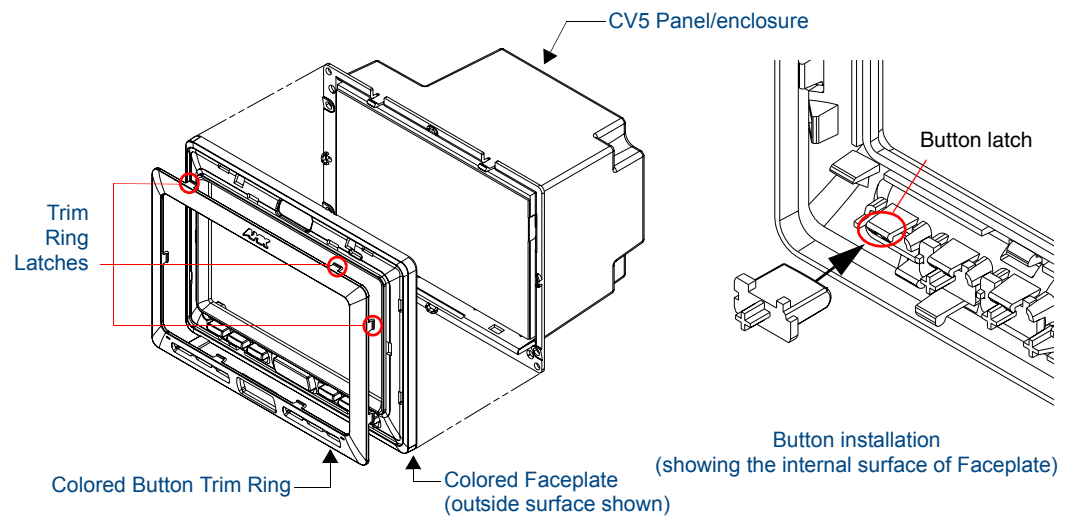

FIG. 14 Installing the Button Bezel Kit (NXA-BEZ-5B)
To assemble the Bezel Kit with Buttons (FIG. 14):
- a. From along the internal surface of the colored Faceplate, install the six colored buttons by firmly inserting them into the button openings until the Button latch secures the button in place (FIG. 14).
- c. Gently insert the Button Trim Ring latches into their corresponding openings on the outer surface of the internal Faceplate (FIG. 14).